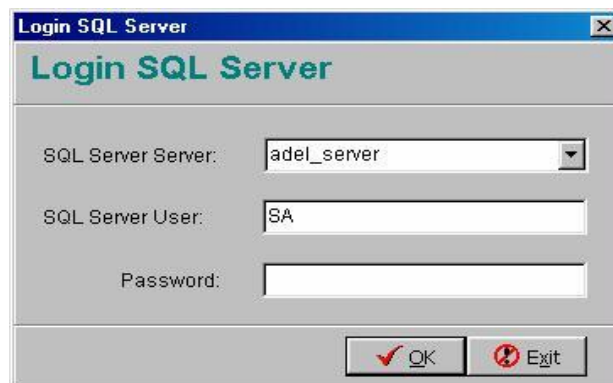

Figure 4-1
- 1) Double click **backup.exe** in the directory **C:\Program Files\Adel\Lock3200 V5.2**. Figure 4-1 appears.